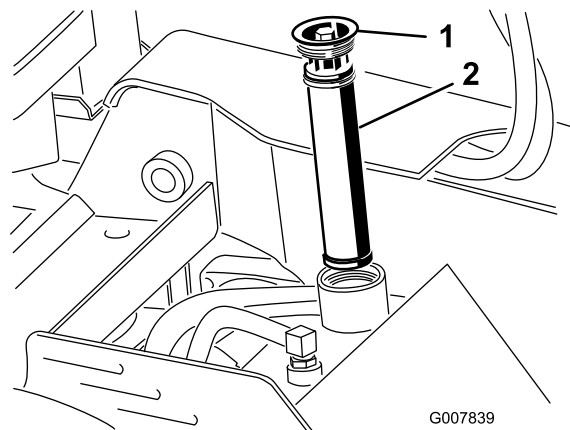

Figure 60
5. Clean the area around the filler neck of the hydraulic tank and remove the cap and filter from the filler neck using a socket (Figure 60).